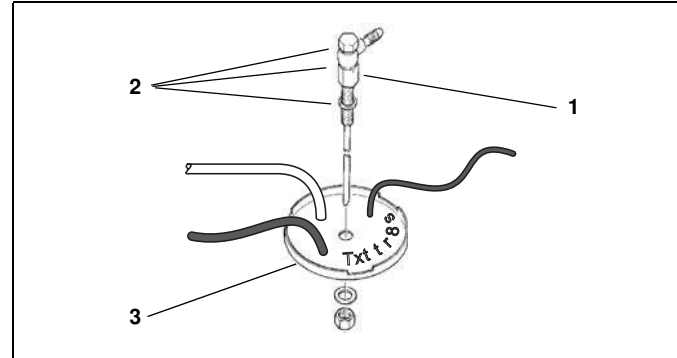

Fig. 22: Webasto fuel extractor
- 2 The fuel can be taken from the vehicle's own fuel tank or from a separate tank with a fuel extractor. See Fig. 22.